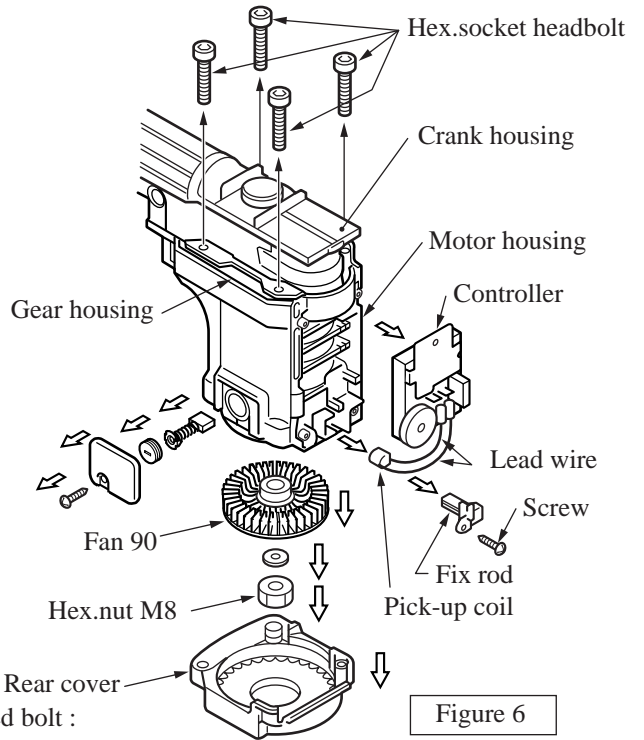

Figure 6
- e. Remove the screw for holding the Fix rod, and then pull out the Fix rod and the Pick up coil. (See the figure 6.)
- g. Remove Rear cover and loosen the Hex.nut M8 while holding the Fan 90.(See the figure 6.)
- h. Remove Fan 90 and remove the 4 pieces of hex.socket head bolts for holding the Crank housing. (See the figure 6.)